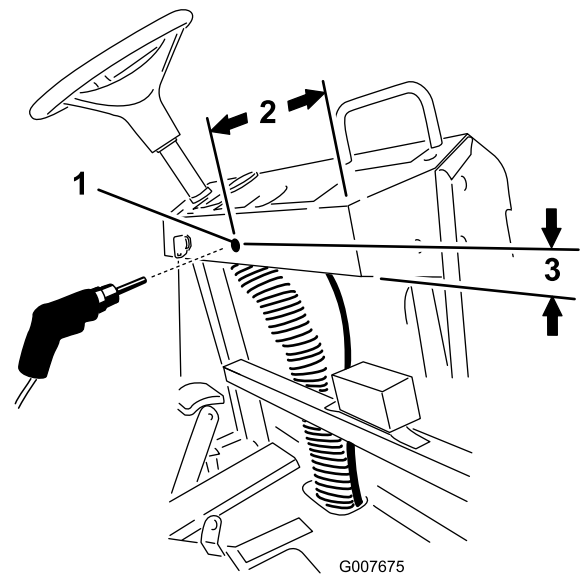

Figure 23
3. Make a mark inward from the right side of the dashboard 10 inches and then 1-1/2 inches from the bottom of the dashboard (Figure 23).